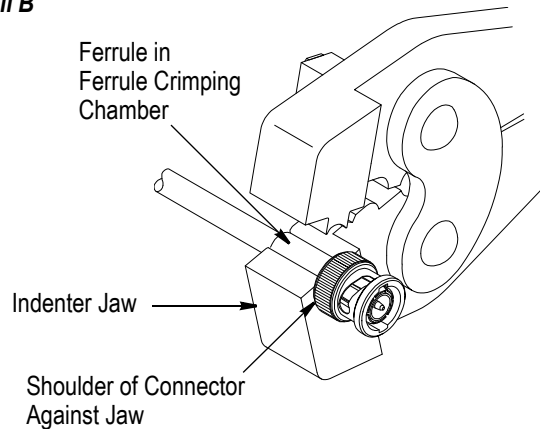

Figure 4
2. Insert the crimped center contact into the connector until it snaps into place. The cable braid must be positioned over the connector support sleeve. Pull back gently on the cable to ensure that the contact is held in place by the internal locking feature. See Figure 4, Detail A.
4. Holding the ferrule in place, position the ferrule in the ferrule crimping chamber and on the indenter jaw so that the shoulder of the connector butts against the jaw as shown in Figure 4, Detail B.